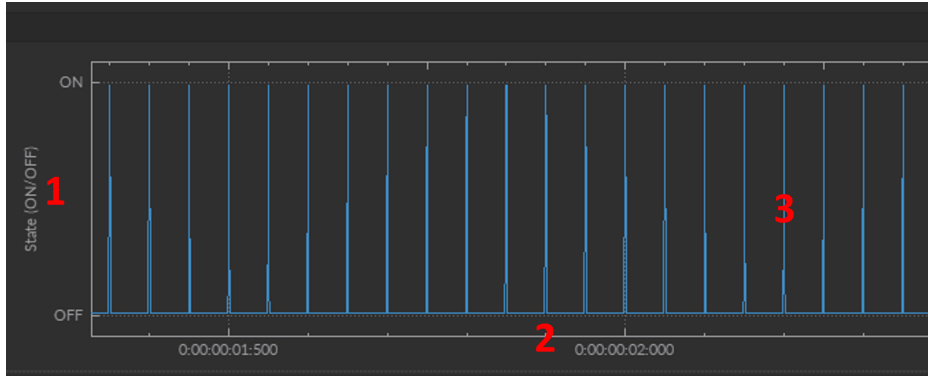

Figure 8.31: Graph(s) View - Graph
1. The **Y-axis** (Fig. 8.31, 1) displays the Digital **State** of the channel, which can be either ON (1) or OFF (0).
2. The **X-axis** (Fig. 8.31, 2) displays the time in d:hh:mm:ss:zzz.
3. The **Trace** (Fig. 8.31, 3) can be edited by selecting the **Graph** button in Section 8.3.1.1, no. 3.